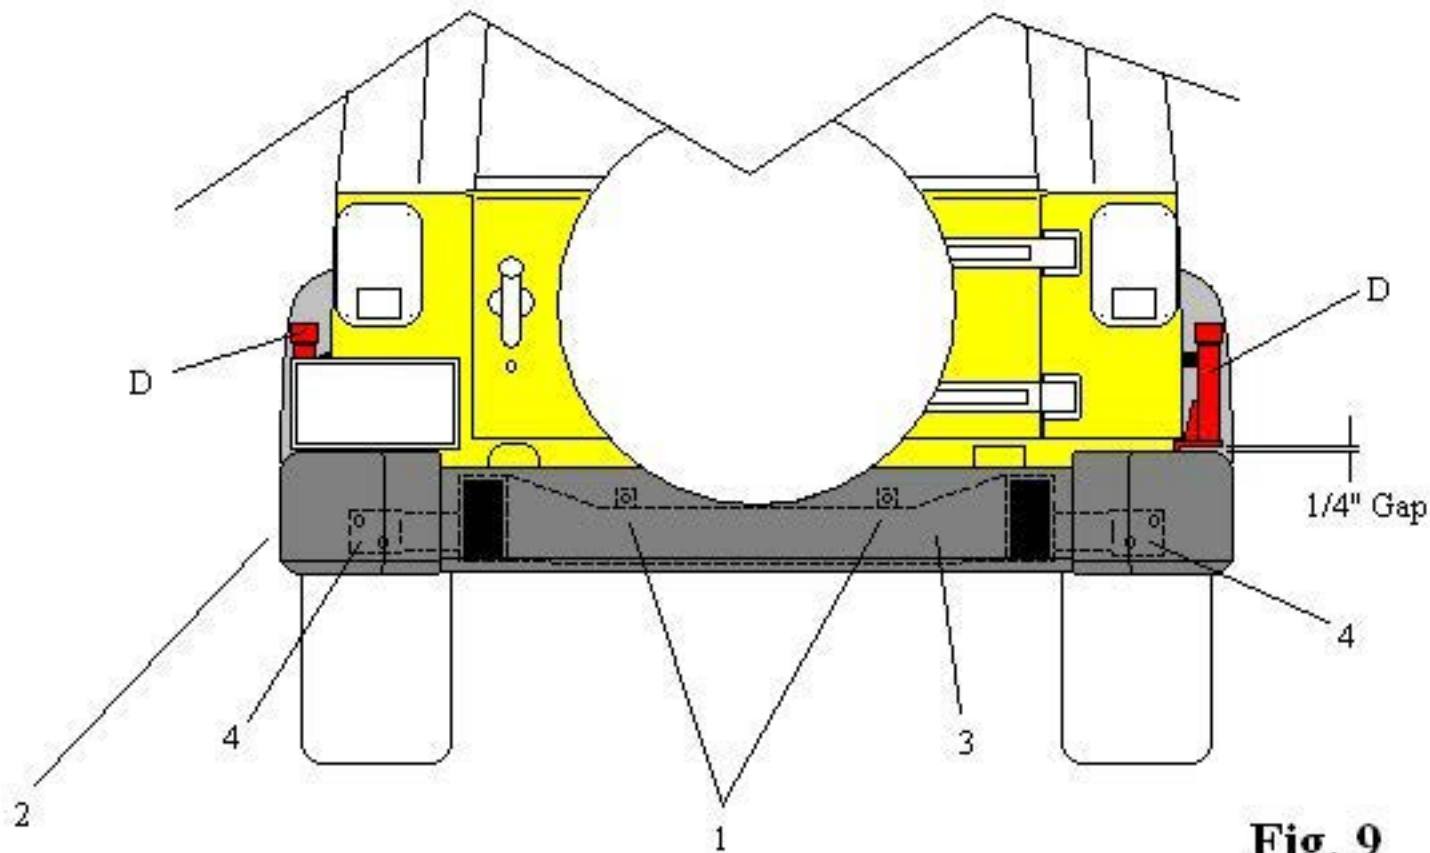

Fig. 9
- 11- Refer to page 6 Fig. 9 attach the rear bumper (2) over the rear vehicle frame (3) indicated by dotted lines. Install the two center bolts (1) first as shown in Fig 9, finger tighten only at this time. Continue by installing either the driver's or passenger side bumper to "L" brackets (4) you may need to pull the bumper slightly outward towards the passenger or drivers sides in order to compensate for the addition of support plate (E) previously installed. Provide approximately a 1/4" gap between the underside of each Support Tower to the top of each side of the rear bumper then fully tighten all bolts (1) attaching the rear bumper to frame (3) as shown on page 6 Fig. 9 use a 16mm socket.